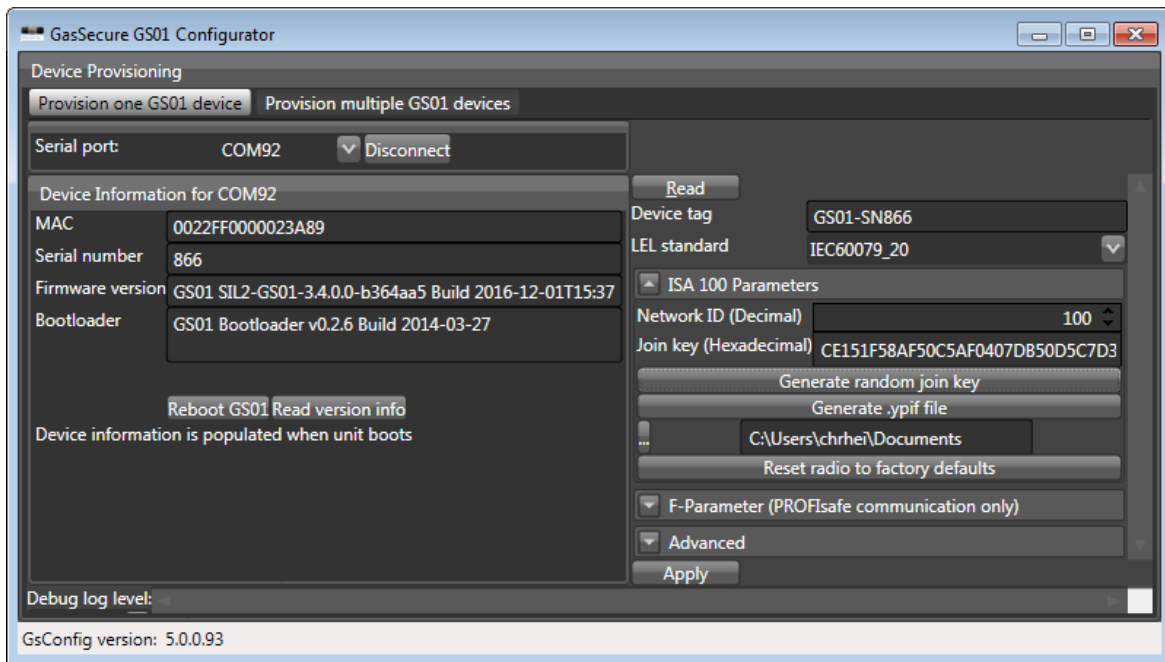

Figure 3-1: GS01 Configurator
- b) Run the GS01 Configurator and select the correct COM port. Keep the default mode "Provision one GS01 device". Press the "Connect" button and verify that the device information is displayed, cf. Figure 3-1. Press the "Read version info" button if the device information does not show automatically. Press the "Read" button so that the current provisioning status of the device is displayed.
- c) Enter the device tag and the required network ID in decimal format, cf. Figure 3-1.
- b) Run the GS01 Configurator and select the correct COM port. Keep the default mode “Provision one GS01 device”. Press the “Connect” button and verify that the device information is displayed, cf. Figure 3-1. Press the “Read version info” button if the device information does not show automatically. Press the “Read” button so that the current provisioning status of the device is displayed as well.